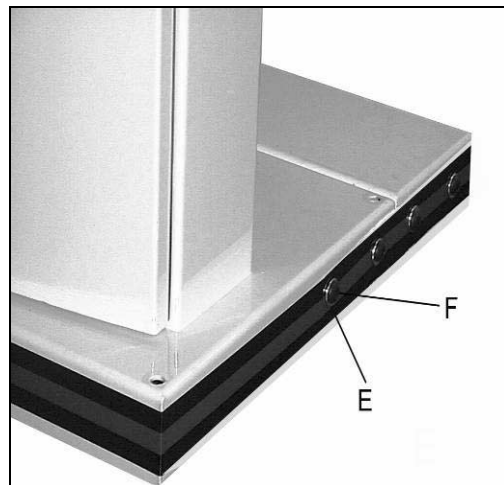

Figure 1C
4. Attach straps to machine base using (2) 5/16-18 button head Cap screw (E, Fig. 1C) and (2) 5/16 flat washers (F, Fig. 1C).